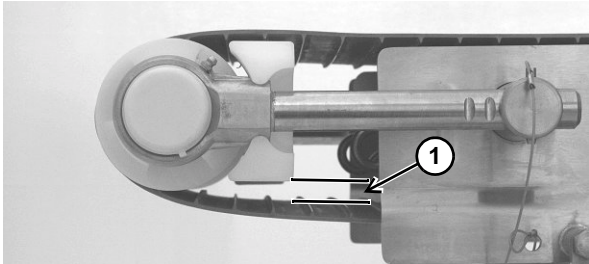

Figure 49
- Some belt sag (**Figure 49, item 1**) is required for proper operation.